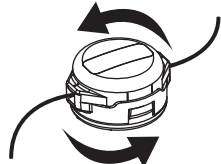

Fig. 18
- Hold the cutting head knob and turn the cutting head counterclockwise to wind the line around the spool until 5 in. (12.7 cm) is protruding from each side of the cutting head. (Fig. 18)